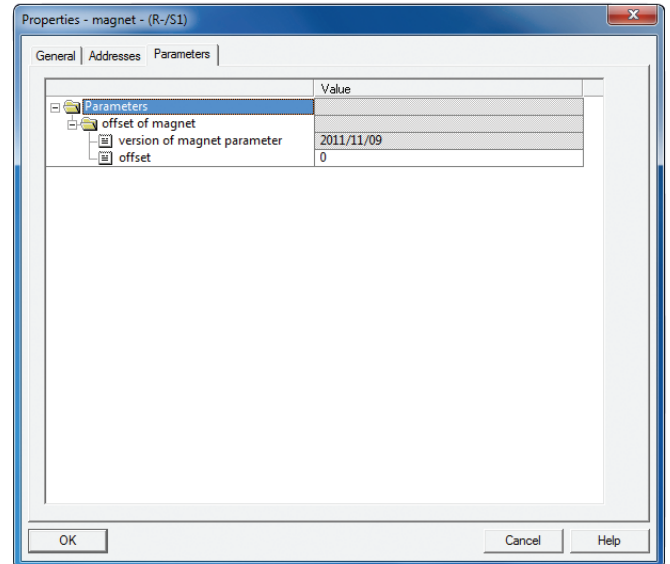

Fig. 43: Adjust the position offset of the magnet (source: Siemens)
7. Double-click a magnet to open window “Properties – magnet”. Select tab “Parameters” and adjust the position offset of the magnet with unit µm (Fig. 43).